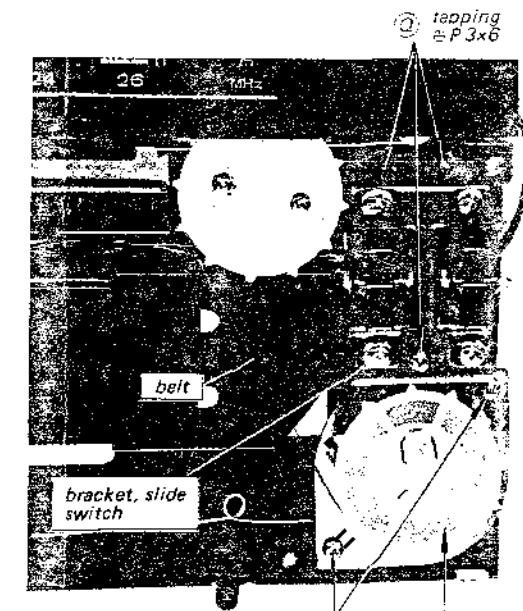

Fig. 2-20.
1. Remove the two screws marked ⑦ in Fig. 2-20 and remove the drive sprocket.
2. Remove the three screws marked ⑧ and take off the slide switch bracket.